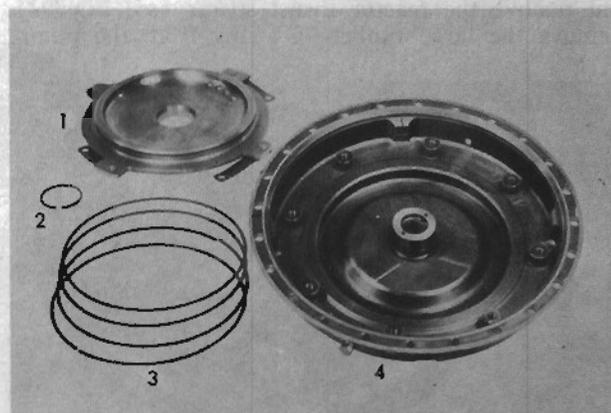

FIG. 400
Remove the four large rings (3, Fig. 400) from the piston and also remove the small inner ring (2) from the hub of the clutch housing. Examine the bushing and thrust bearing in the direct drive clutch housing hub and if replacement is indicated, assemble